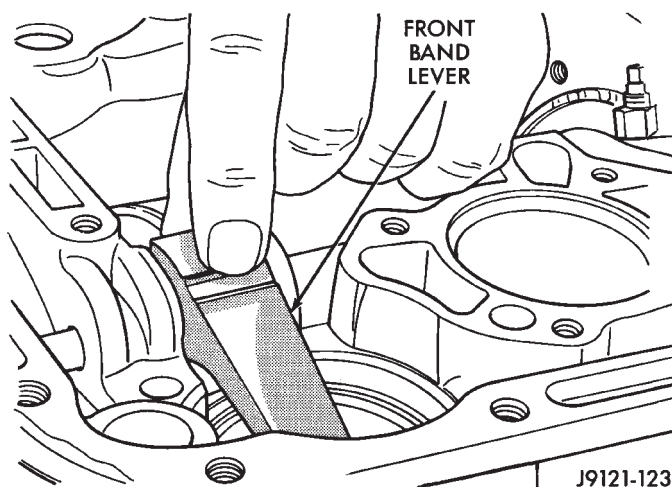

Fig. 138 Removing/Installing Front Band Lever
(27) Remove front band lever (Fig. 138).